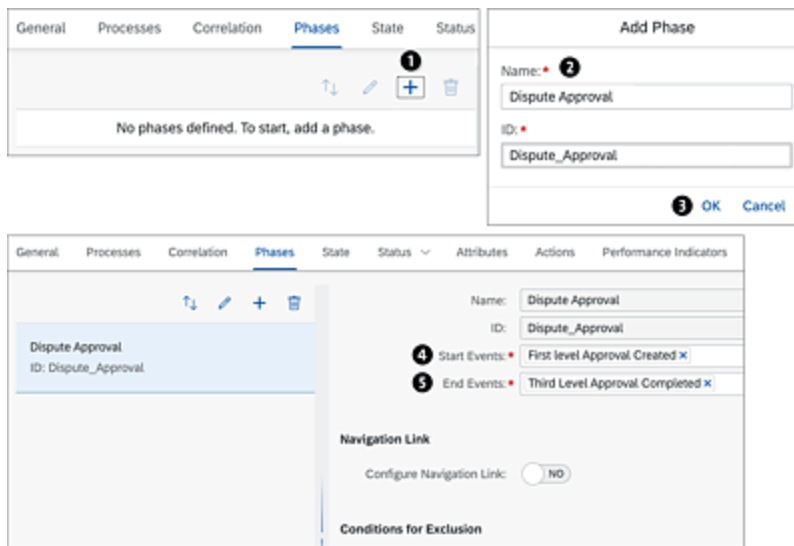

Figure 19.10 Configuring Process Phases
1. Go to the **Phases** tab, and then click on **+** to add a phase, as shown in Figure 19.10 ①.
2. In the **Add Phase** dialog box, provide a **Name** and **ID** for the phase ②, and then click on **OK** ③.
3. Define the start of this phase by choosing the required start event from the **Start Events** dropdown list ④. Here, you choose **First level Approval Created** (see Figure 19.10).
4. Define the end of this phase by choosing the required end events from the **End Events** dropdown list. Here, you choose **Third Level Approval Completed** ⑤.